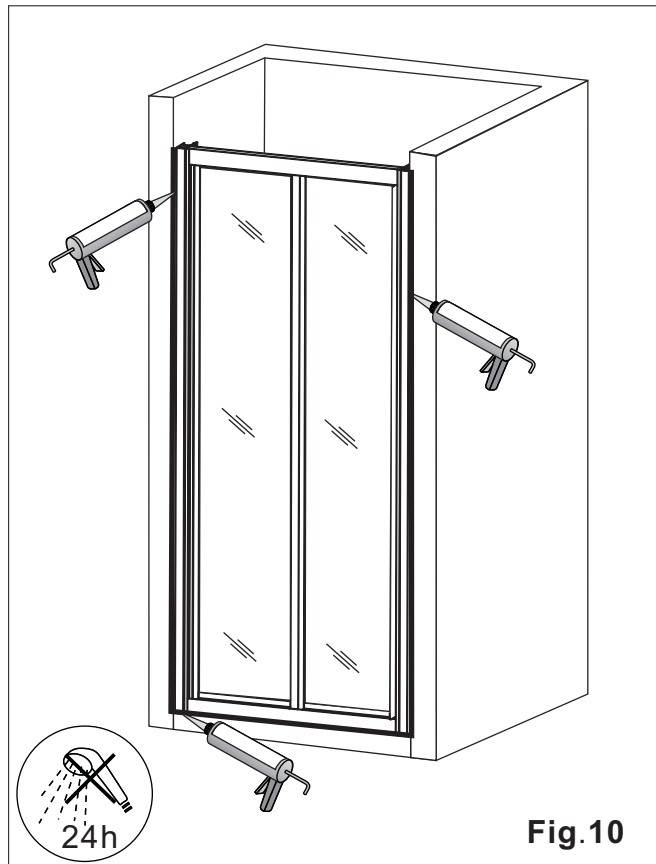

Fig.10
10. Apply silicone sealant to the joints on the outside of the shower door only as indicated by the thick line in **Fig.10**.